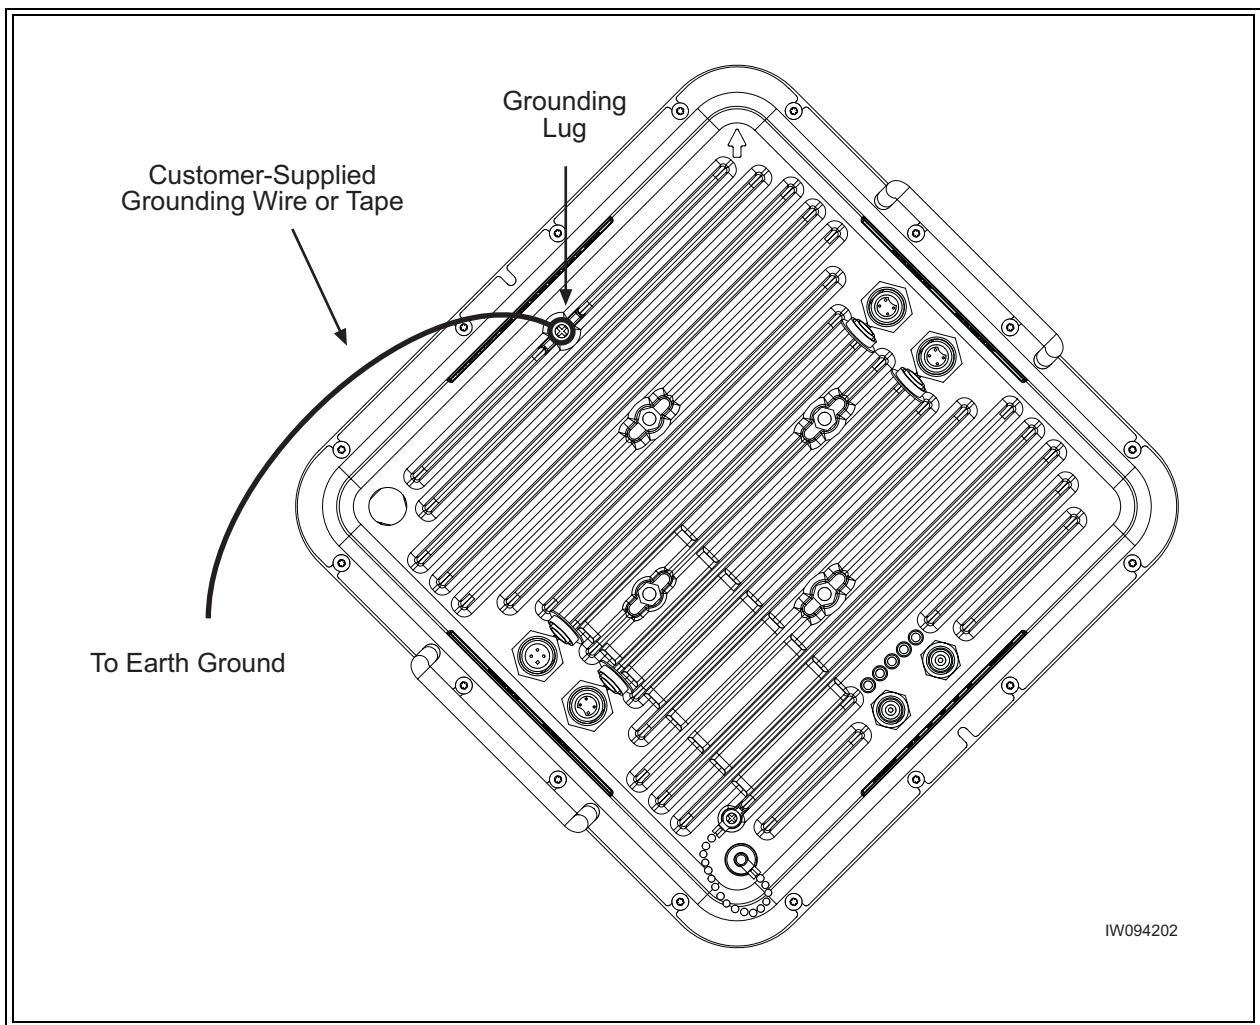

Figure 4-32 Connecting an Earth Ground to the Link CX
- 54** Following the guidelines in Appendix 4, connect a customer-supplied solid wire or tape (not braided) grounding wire to the grounding lug on the back of the Link CX. See Figure 4-32 for the grounding lug location.